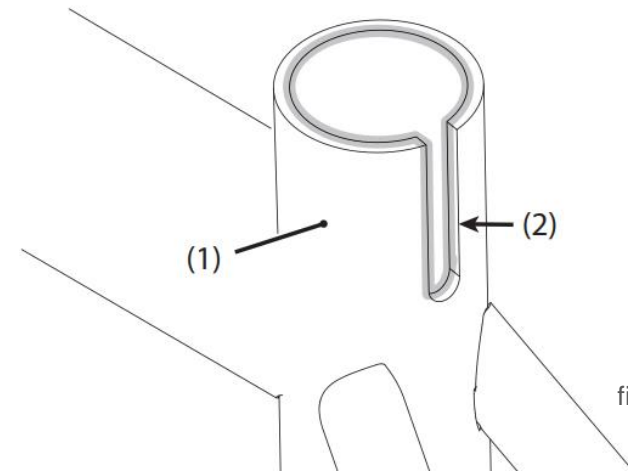

fig. 19
Check the seat tube (1) opening and slot (2) carefully for sharp edges or burrs (see fig. 19). Anything that can scratch, score, gouge, or cut the seat post can cause serious damage leading to breakage of the seat post. Sharp edges or burrs can be removed by hand by lightly sanding with a very fine sandpaper (400 grit). The seat tube opening and -slot should feel very smooth without jagged edges or nicks.